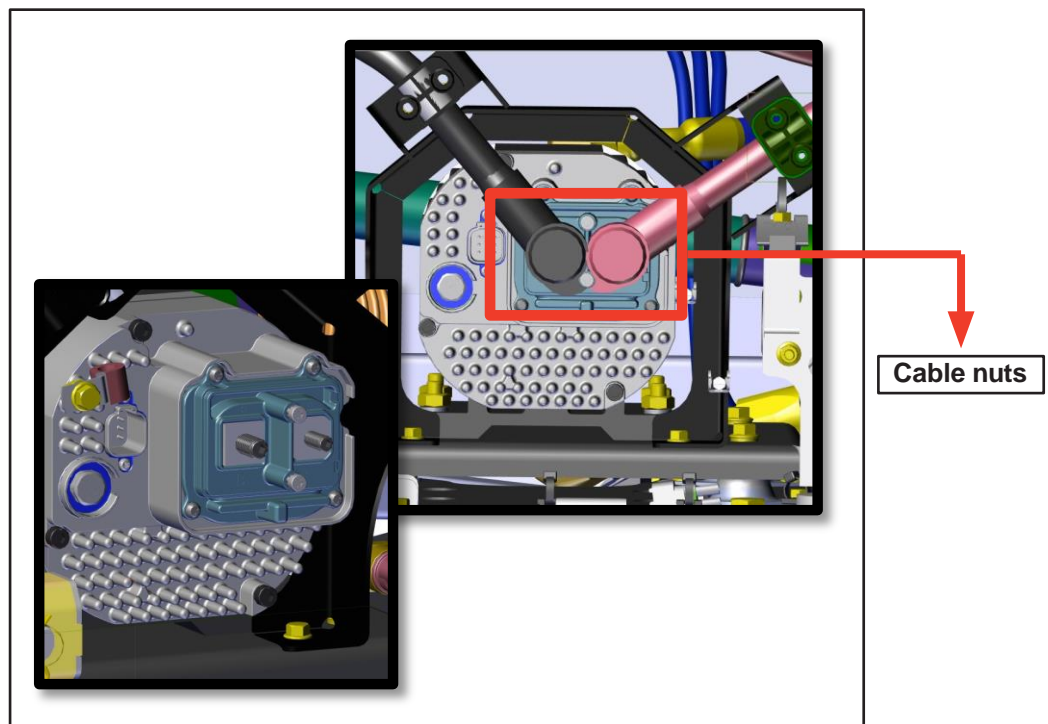

Figure 5 - Disconnecting the positive and negative cable nuts
- 1.7. Disconnect the positive (+) and negative (-) cables nut connected to the stud using a 17mm socket retain nuts (see figure 5).